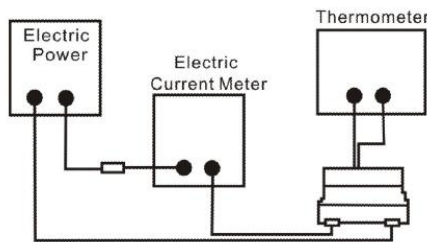

Fig.5.3.3-1
- d. Definition of Temperature rise current: DC current that causes the temperature rise ($\Delta T = 40^{\circ}\text{C}$) from 20°C ambient (see Fig. 5.3.3-2).